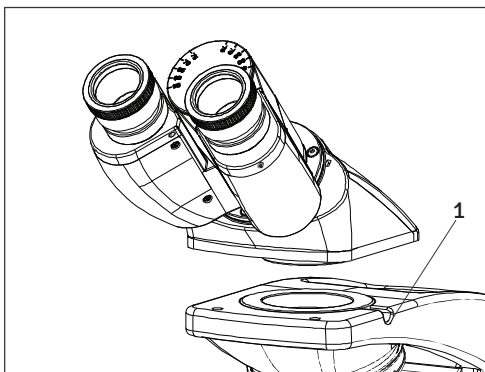

Fig. 12
1. Using Allen wrench 3mm (provided), loosen the Head Locking Screw (1) and remove the dust cover cap provided in dovetail Cavity as well as on observation head dovetail.
3. Tighten the Head Locking Screw (1) after positioning the Observation head as desired. See figure 12.